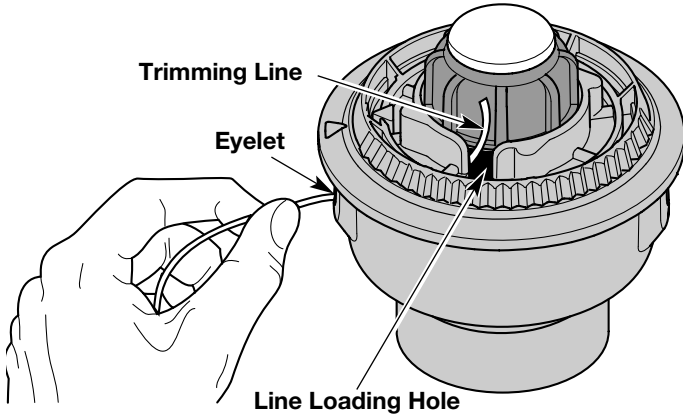

Fig. 16
3. Pull old line out of the line loading and line locking holes (Fig. 16 and 17).
4. Insert a piece of trimming line straight into one of the two eyelets in the outer spool. Push it up through the line loading hole in the inner reel (Fig. 16). Do not bend the line when inserting it into the eyelet.